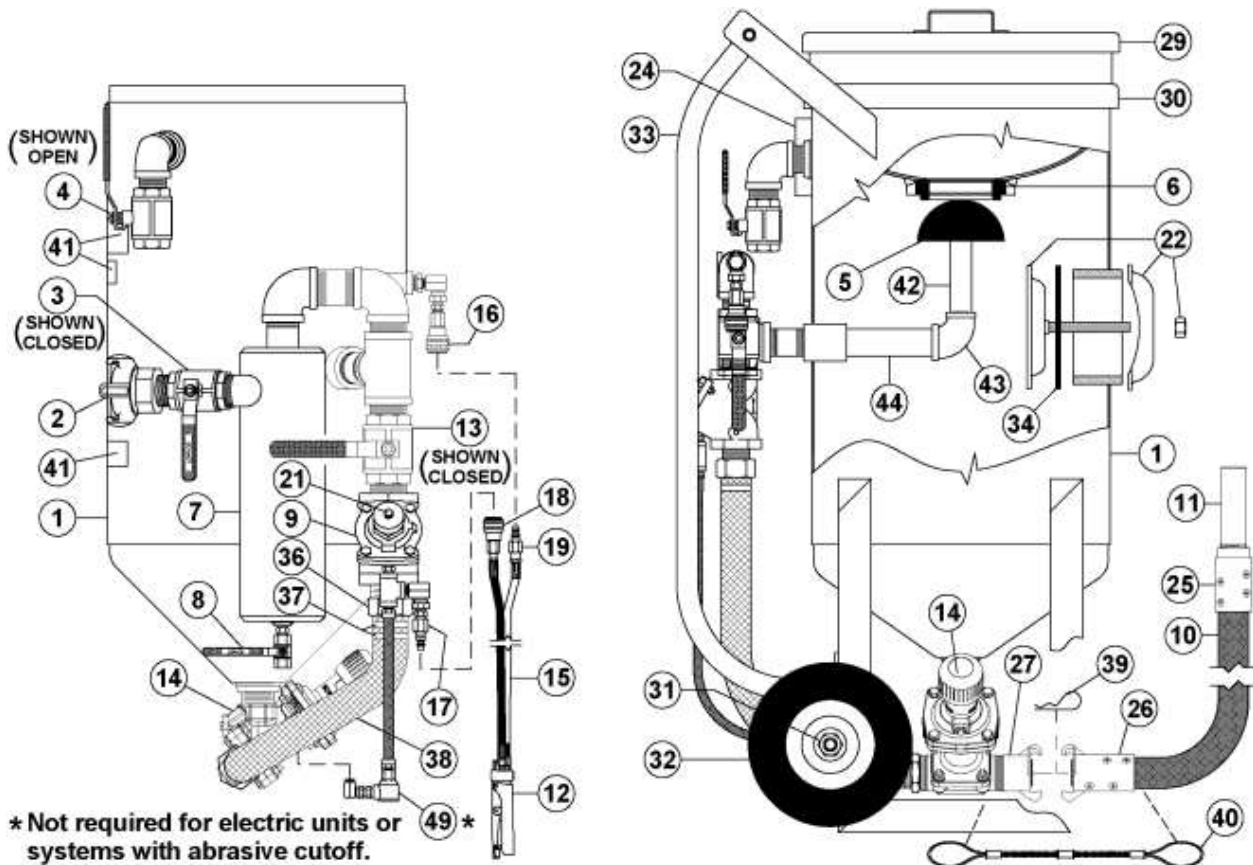

Figure 7.2 – Tera Valve™ Abrasive Blaster with pneumatic deadman controls
7.3 Ending the Blast Operation (See Figure 7.2)
- 7.3.1. Close the air inlet ball valve (#3). The ball valve is closed when the handle is fully turned to the position shown in Figure 7.2 (handle perpendicular to body). The handle tab will bottom against the ball valve body in the closed position.